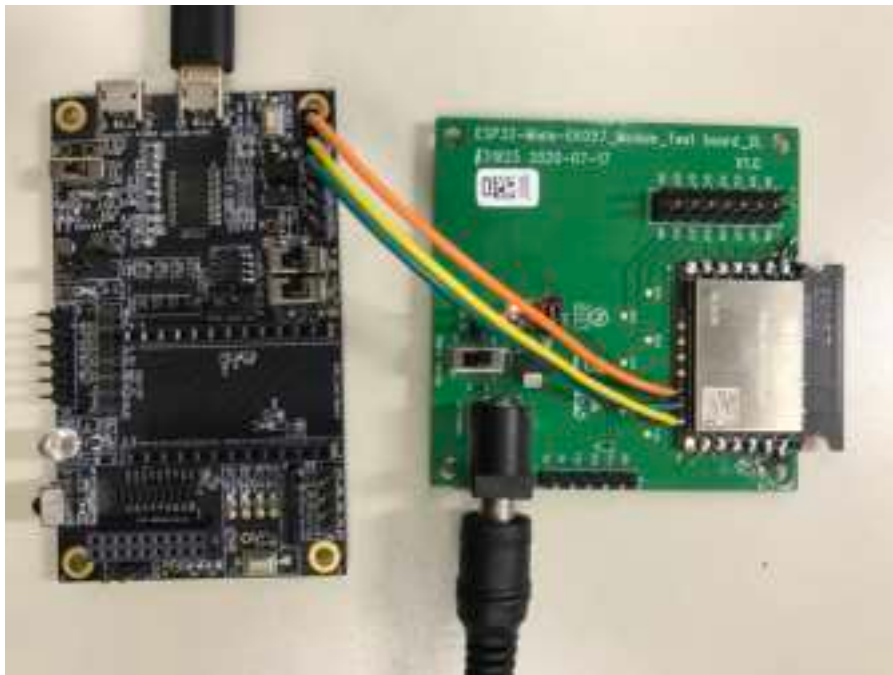

Figure 1: Hardware Connection
1. Solder the EK057 module to the RF testing board as shown in Figure 1.